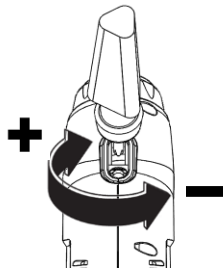

Fig.4
3. Turn the screw plug to setup the torque (see Fig. 4).